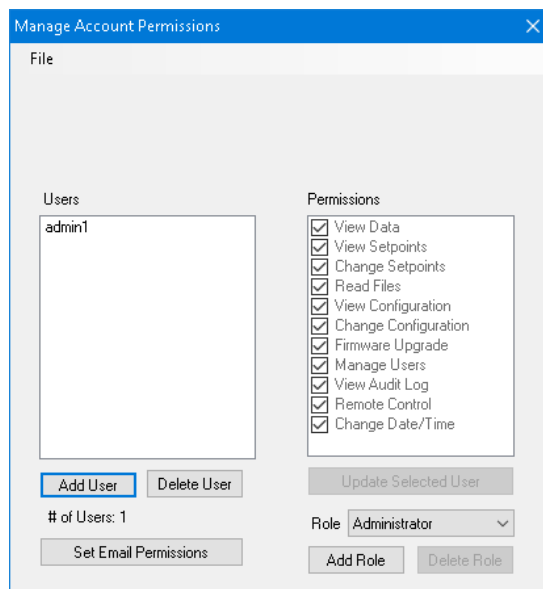

Figure 3-9 Manage Account Permissions Screen
- Start IPScm, select **Utility/Cybersecurity/Online Role Based Security/Manage Account Permissions** from the IPScm tool bar. IPScm will display a "Manage Account Permissions" screen (Figure 3-9).
2. Select **Utility/Cybersecurity/Online Role Based Security/Manage Account Permissions** from the IPScom tool bar. IPScom will display a "Manage Account Permissions" screen (Figure 3-9).
When the S-7600 IPScom is installed on the host PC, a Role file is created that contains the default Roles. Changes to existing Roles and creation of new Roles are captured in this file. However, Roles created on other IPScom PC installations may have different permissions for the same Role name. Adding and deleting "Roles" is accomplished from the "Manage Account Permissions" screen (Figure 3-9).